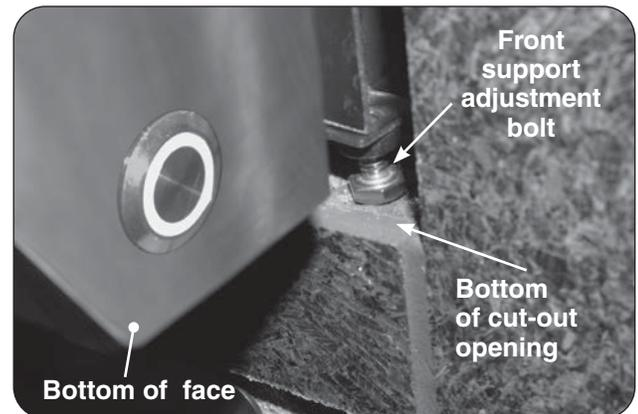

Fig. 21-3 Front support adjustment bolts
This outdoor built-in grill must be supported by the stainless-steel hanger extending from the upper portion of the grill. The hanger rests on the left, right, and back of the countertop and on the two front support adjustment bolts located below the control panel on the left and right sides (see Fig. 21-3).
2. Rotate the front support adjustment bolts to the left to raise and to the right to lower the respective side of the appliance. Use a $\frac{7}{16}$ " open-end wrench as needed. See Fig. 21-3.